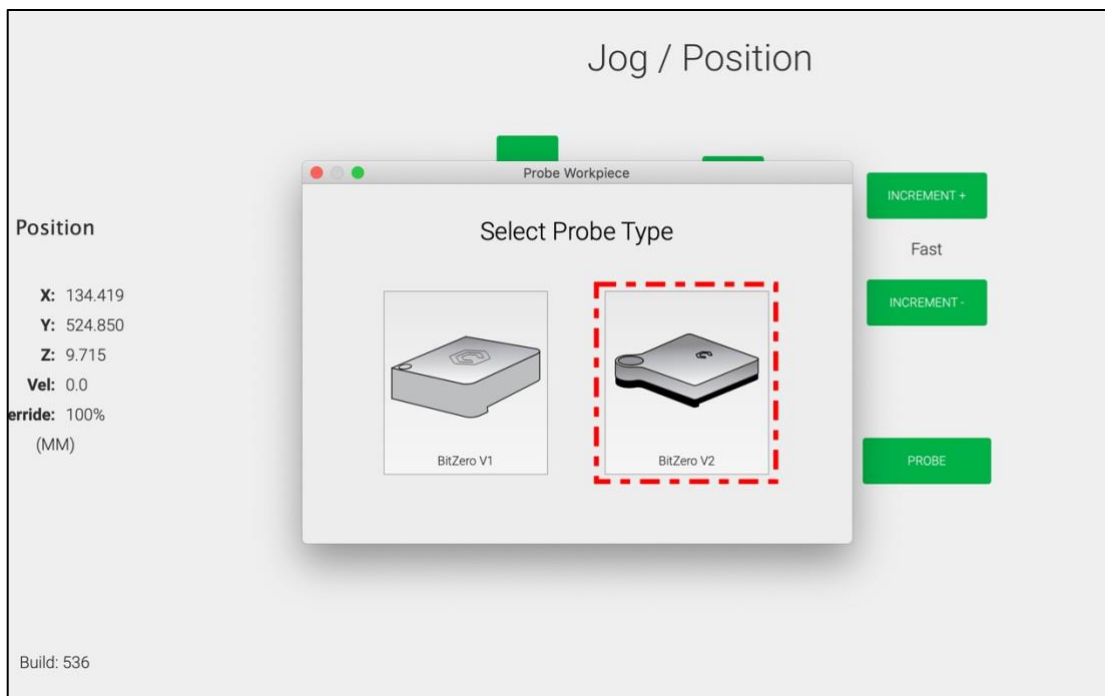

Figure 7
10. Select **BitZero V2** for the probe type. See **Fig. 7**.